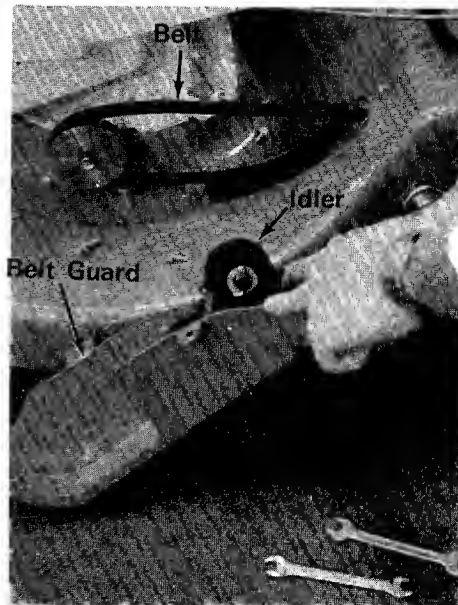

Figure 21
- 2 Remove the three screws holding the belt guard (and idler assembly). (See figure 21.)